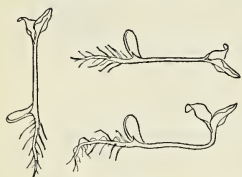
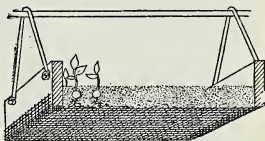

Fig. 336. The seedling was turned upon its side. How did stem and root change their directions?
Fig. 344. To show that roots seek water.
**How roots hunt water.** If you turned a young plant upside down, would its root become a stem and grow leaves and its stem grow into the ground and produce roots? Figure 336 shows an experiment to determine that. A seedling was turned on its side after it was well started. You notice that the root turns down again as if it knew it belonged in the ground. We have not discovered why roots grow down, but down they go. Water is generally in the ground below and they grow toward the water. Roots from a Carolina poplar have been known to grow fifty yards directly toward a drain pipe, and then enter the pipe through the joints. In many communities planting of poplar trees is prohibited because their roots search out drain pipes and fill them. Figure 344 shows an experiment that demonstrates how roots go out of their way to reach water.